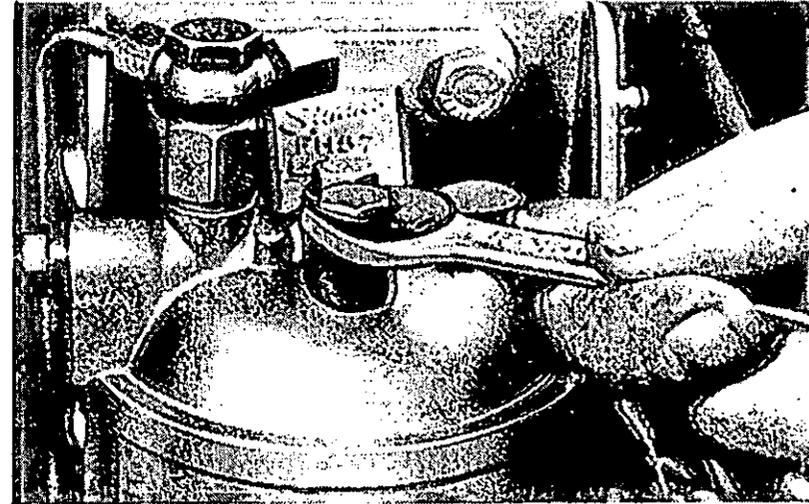

Fig. 18 Single element fuel filter vent plug
- 1 Loosen the vent screw on top of the fuel filter (see fig. 18 or 19) by two or three turns.